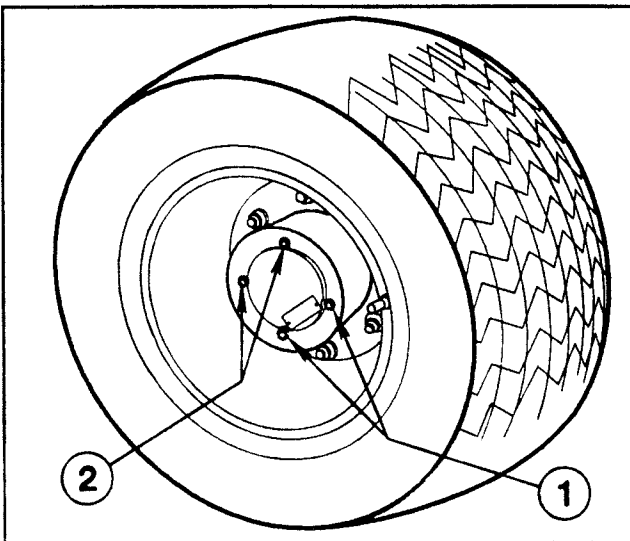

Figure 38
CHANGING PLANETARY GEAR DRIVE OIL (Fig. 38,39)
1. With machine on level surface, position wheel so the check/drain plugs are at the 3 and 6 o'clock positions. (Fig. 38 position 1.)
4. When Gear Drive is completely drained, reinstall plug on bottom of hub and position wheel so holes are at 9 and 12 o'clock position. (Fig. 38 position 2.)